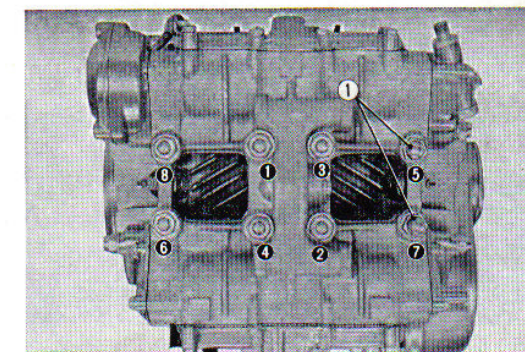

Fig. 3.19 Tightening sequence
It is recommended that the nuts be loosened in the reverse of the tightening sequence. (Refer to Fig. 3.19)
- b. Torquing of the head nuts should be performed starting from the inside and working outward diagonally as shown in Fig. 3.19. Use a